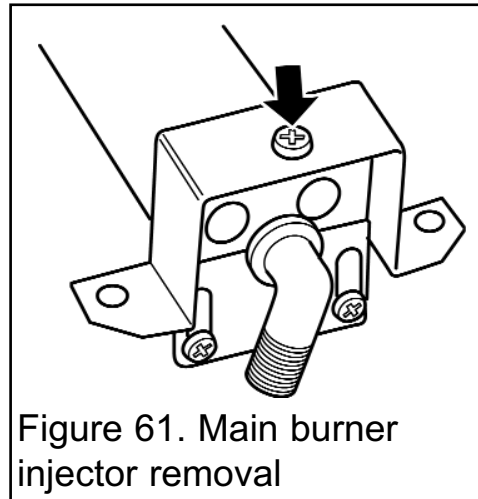

Figure 61. Main burner injector removal
(See figure 61).
2. Remove the burner clamping screw (See figure 61)